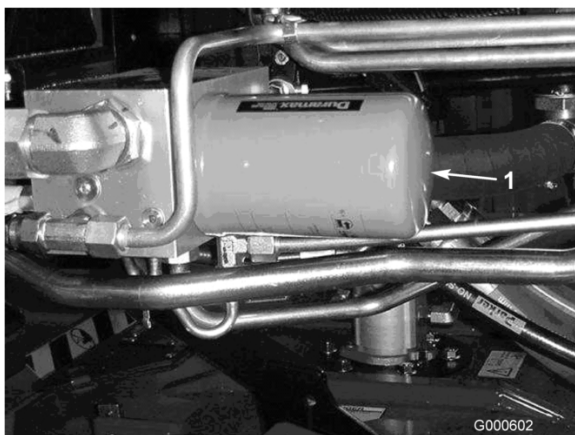

Figure 54
2. Clean the area around the filter mounting area. Place a drain pan under the filter and remove the filter (Figure 53 and Figure 54).